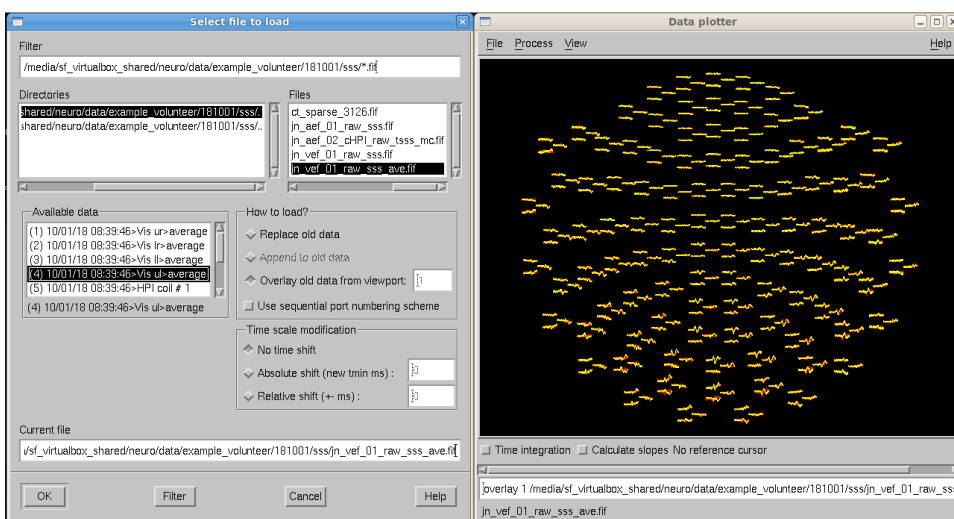

Figure 21: *Xplotter* data loading and overlaying.
- Select **OK**. The selected data is now visible in a topographical plot (Figure 21).
- The second dataset is overlaid with the first one in the topographical plot (Figure 21).
- The *Xplotter* display layout shows the channel-level epoch waveforms in a topographical view, nose up, right on right (Figure 21). The curves are organized in triplets, where the three channels are in the same physical location:
- Open the FIFF file again, **File** -> **Load data**, and select **Absolute shift** (see Figure 21).